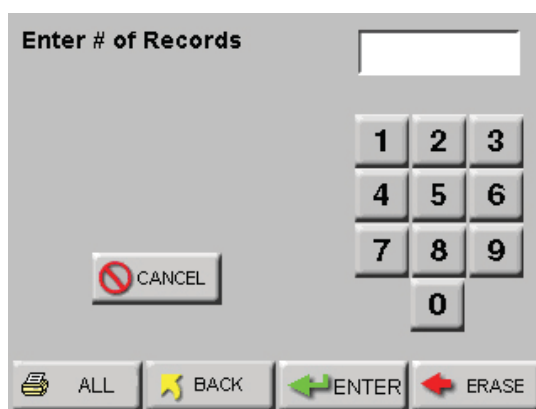

Figure 6-74 Print Range Screen
- Press the **RANGE** button. The Print Range screen displays as shown in Figure 6-74.